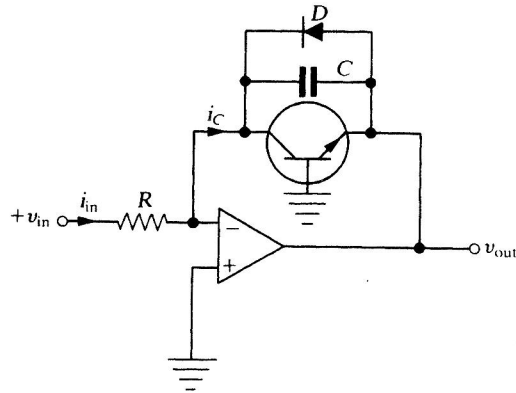

FIGURE 10.12 The logarithmic amplifier.
With the circuit of Fig. 10.12, we can use an op amp to produce an output voltage that is proportional to the logarithm of its input voltage. The qualitative explanation of the logarithmic amplifier is that as the input voltage goes more positive, the output of an op amp goes negative, which tends to turn on the npn transistor (the emitter going negative is equivalent to the base going positive). Thus, there is a smaller and smaller resistance (of the transistor) between the op amp output and the inverting input, which lowers the gain of the op amp. Thus, the larger the input signal voltage, the smaller the op amp gain, which effectively "compresses" the gain—a factor
6. It is often necessary to add a small capacitance across the transistor to prevent oscillation as shown in Fig. 10.12.
7. When the op amp output goes positive (from a negative input), the npn transistor is turned off and the maximum collector emitter voltage may be exceeded. A diode is sometimes placed across the transistor to protect it as shown in Fig. 10.12.